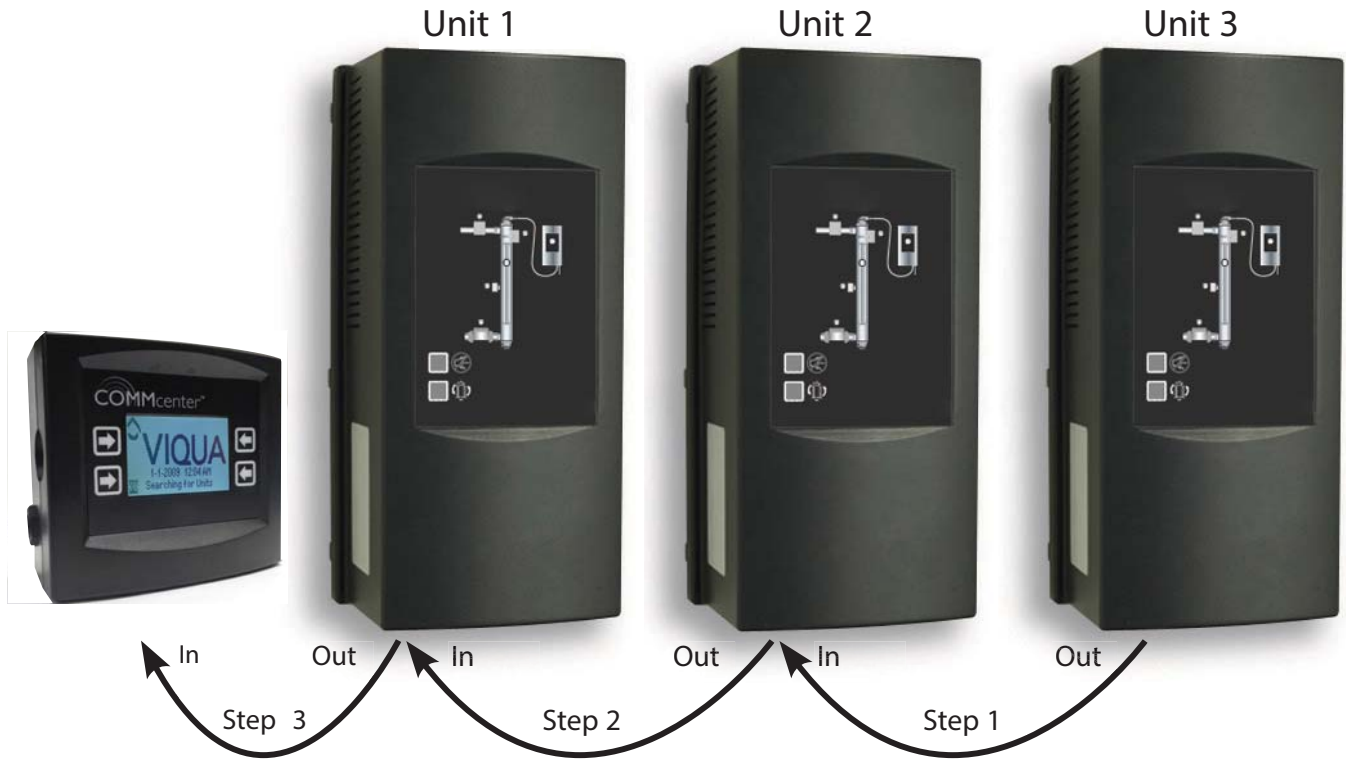

Figure 3 Multiple Unit Installation
5. To connect to multiple units, refer to Figure 3 then return to step 5.
- Make the required connections in the sequence as shown in Figure 3.